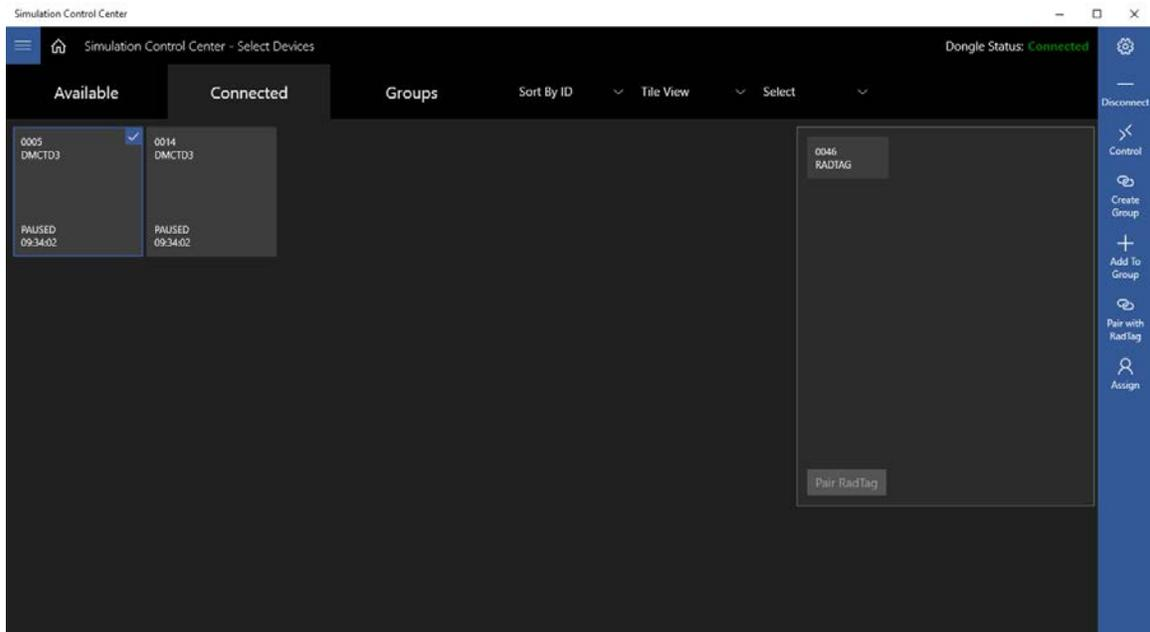

FIGURE 2 RAD TAG POP-UP BOX
5. A pop-up box appears displaying all available Rad Tags not already connected to a DMC 2000TD (see Figure 2)